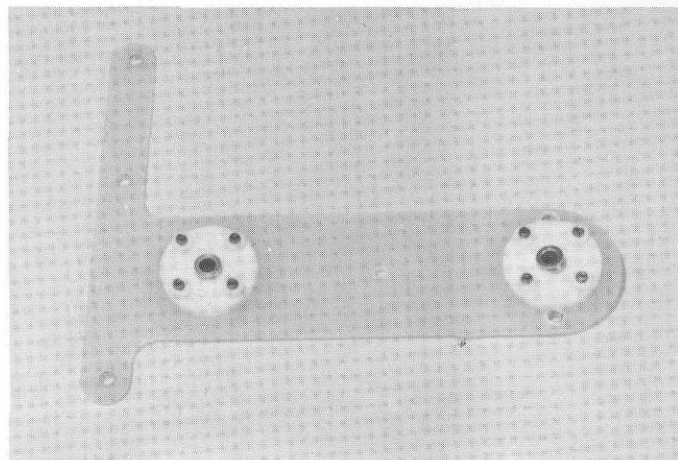

Fig. 22
□ **Fig. 22** Now we need to repeat the process in figs. 17 to 21 for the rear pivot. For this pivot the ball must be very free in the socket but not loose. If the ball is not perfectly free you can do a couple of things to correct the problem. You can unscrew all four screws equally, one quarter to one half turn, but the best way is to remove the pivot ball and polish it. You can do this by placing the ball on a long 4-40 screw and securing it with a nut. You then mount the screw in a drill press and polish the ball using crocus cloth or 660 wet or dry sandpaper. Clean the ball off and reinstall it and check the movement. Keep doing this until you get the ball perfectly free, but not loose.